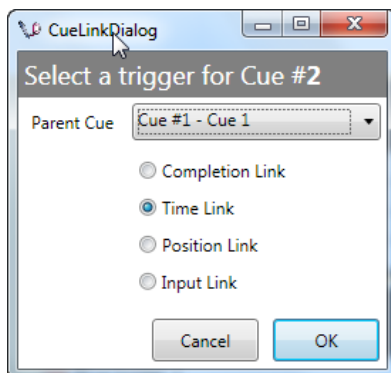

Figure 241
2. Select the **Parent Cue** from the drop down list and select **Time Link**, then press **OK** (Figure 241).